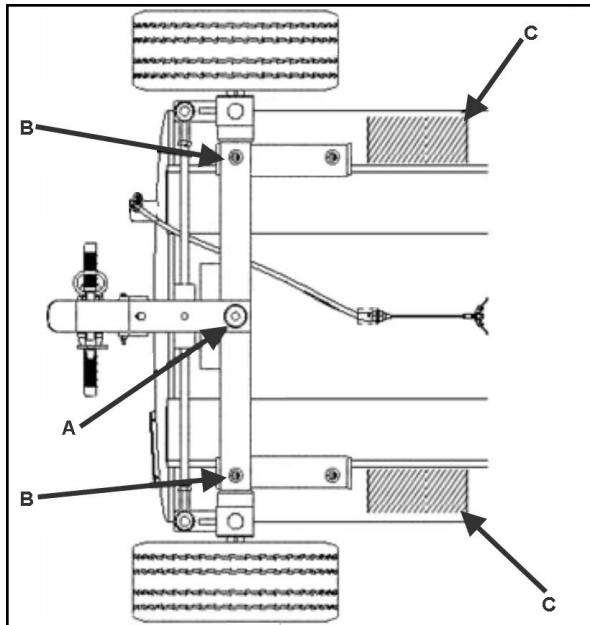

Figure 4-11 Lift Points
To remove the entire Rear Undercarriage assembly, the equipment must have the back end raised. See Sections 4.12, and 4.13 with Figure 4-11.
- a. Raise equipment with suitable main maintenance jack (see Figure 4-11 reference arrow A for jack placement) and allow for 2-inches of space between the wheels and the ground.
- b. Place cribbing under tank skids to safely support the equipment. (see Figure 4-11, reference points labeled with a C).